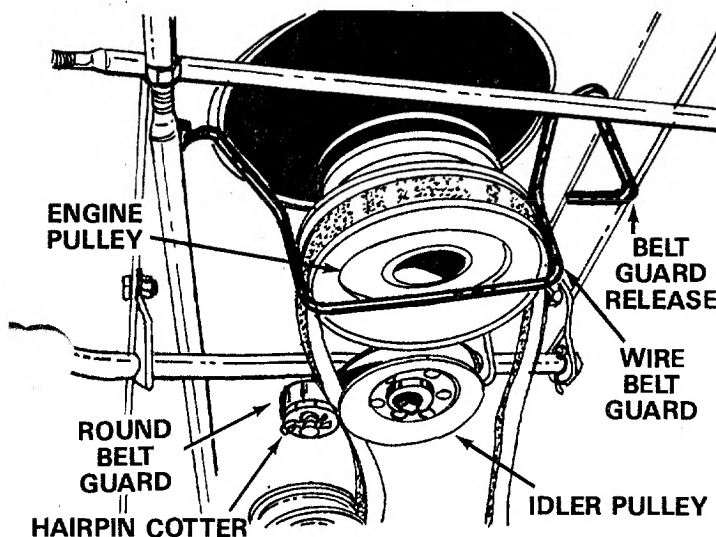
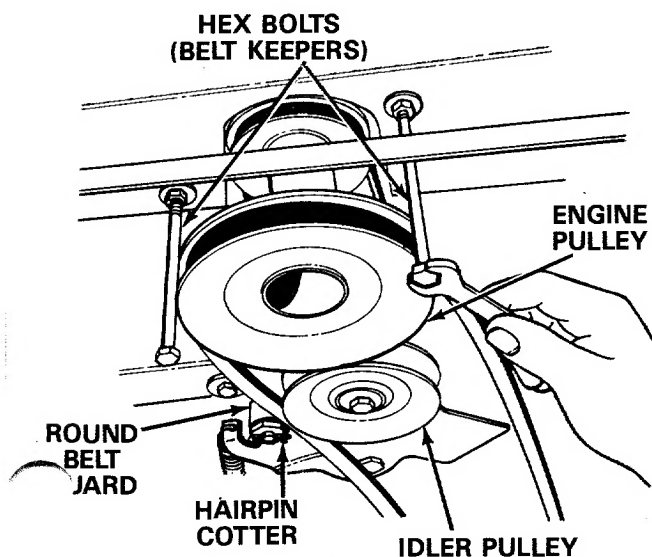

FIGURE 7A
FIGURE 7B
12. Remove the round belt guard from the idler on tractor by removing the hairpin cotter. See figure 7A or 7B.
13. Remove the engine pulley belt guard by either unscrewing the belt guard release and swinging the engine pulley belt guard out of the way (see figure 7A), or removing the two long hex bolts which act as belt keepers (see figure 7B).